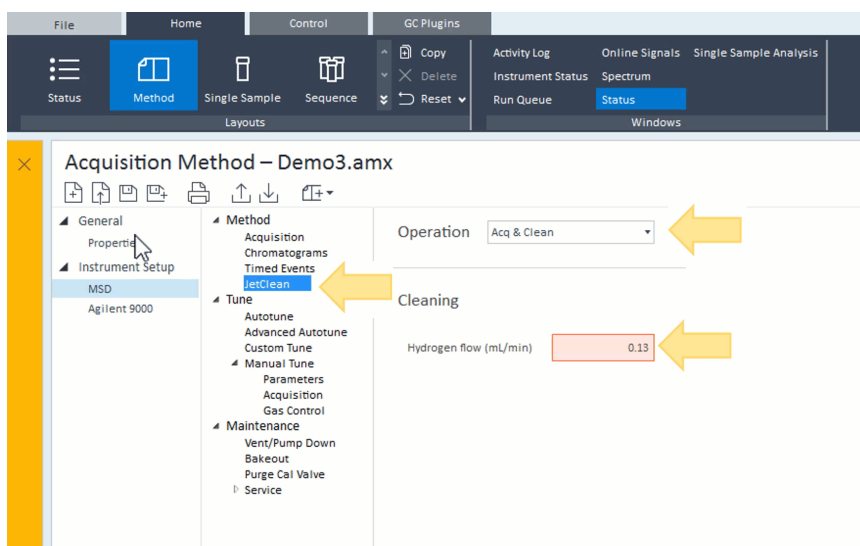

Figure 17. Method Acquisition parameters
- c Click **JetClean**, then, from the **Operation** drop-down, select **Acq & Clean**. This option will not be available if your MSD is not configured with a gas flow controller. (See Figure 17.)